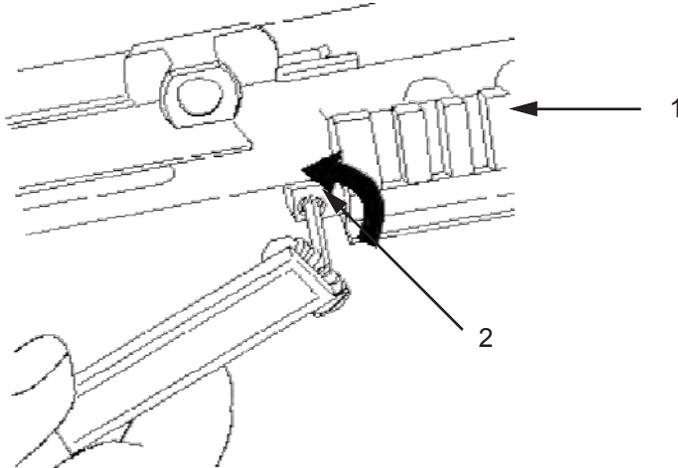

Figure 3. Rail Adapter Screw Removal.
3. Using a 9/64 hex key wrench, remove and discard two screws (Figure 3, Item 2), from the right side of the rail adapter (Figure 3, Item 1).